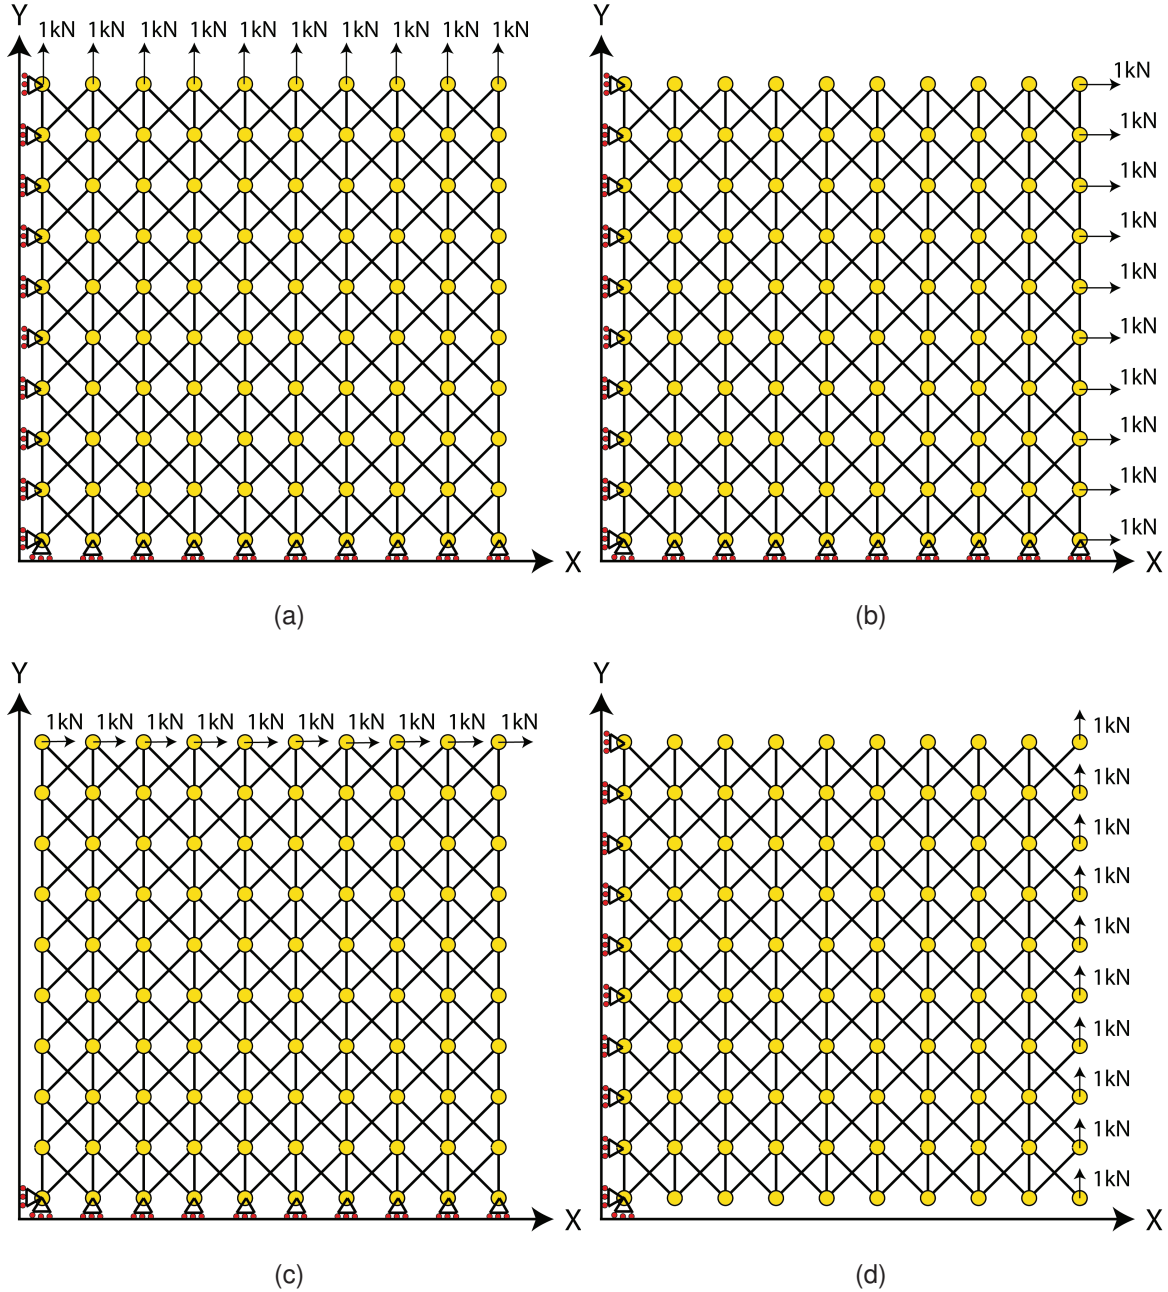

Figure 5: Anisotropic 2D truss structure under different loading conditions in order to compute elastic moduli: (a) E_v , (b) E_h , (c) G_h and (d) G_v .
- Apply a 1 kN vertical load (+Y direction) on all the top nodes of the structure (Fig.5(a)). Measure the vertical Young's modulus E_v .
- Apply a 1 kN horizontal load (+X direction) on all the right nodes of the structure (Fig.5(b)). Measure the horizontal Young's modulus E_h .
- Apply a 1 kN horizontal load (+X direction) on all the top nodes of the structure (Fig.5(c)). Measure the horizontal Shear modulus G_h .
(d) Apply a 1 kN vertical load (+Y direction) on all the right nodes of the structure (Fig.5(d)). Measure the vertical Shear modulus G_v .